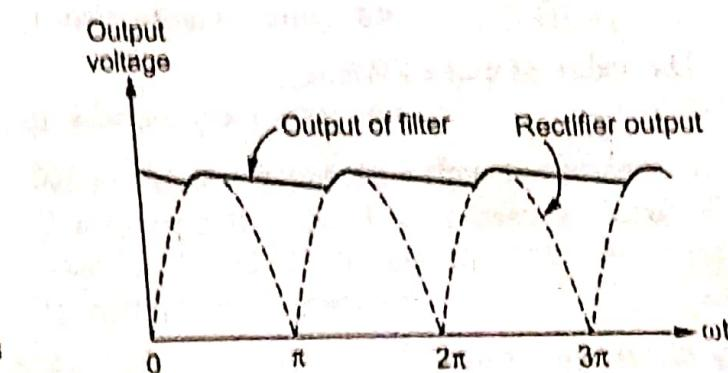

Fig. Q.35.2 Waveforms of π filter
- The Fig. Q.35.2 shows the waveforms of π (Pi) filter.